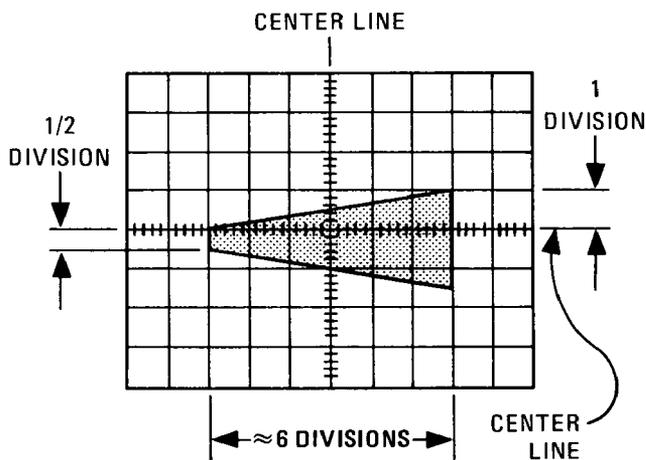

Figure 4-9. Lissajous Pattern for 1 kHz AM Rate (≈67% AM)
14. Adjust the audio synthesizer level and the oscilloscope's vertical and horizontal sensitivity and position controls to give the Lissajous pattern shown in Figure 4-9. (This gives approximately 67% AM.)